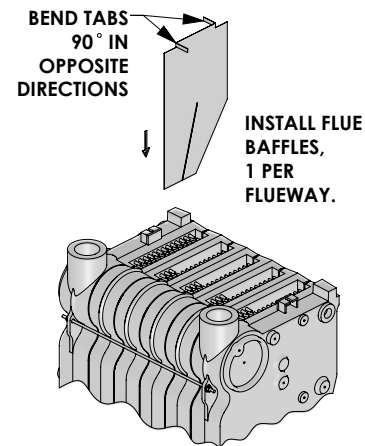

Figure 2.3: Flue Baffle Installation - 64™-e Models
3. Knock-Down Boilers - Flue baffles are located in 64-e-07 thru 64-e-12 section jacket cartons. Bend baffle tabs as shown in Figure 2.3 and suspend baffles from top of flueways. Install one baffle per flueway.